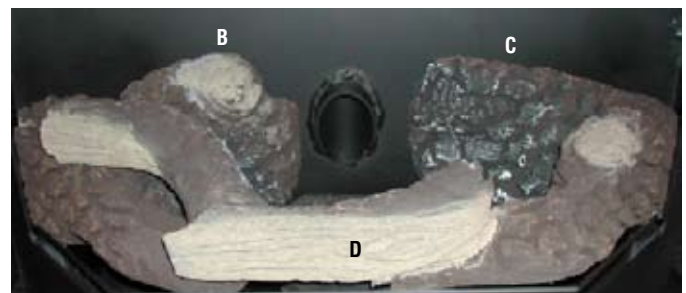

Figure 41
3. Remove the ceramic logs from the box and carefully unwrap them. Position each back log (**Figure 41**, B and C) in their proper place, one on each side against the back of the firebox.
4. The front log should face the front of the firebox with the woodgrain showing. It should rest on the other two back logs. See **Figure 41** for assembled log set.